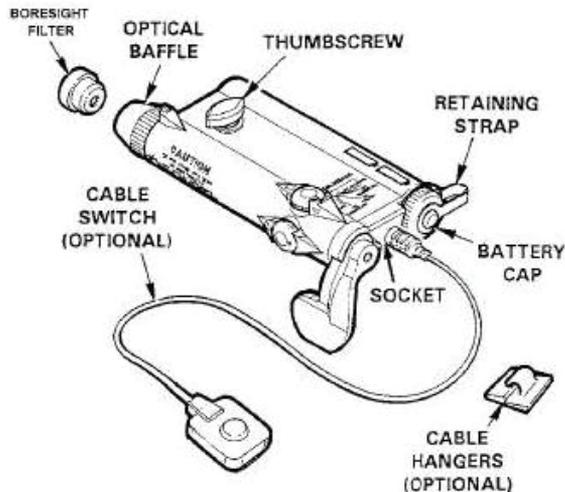

Figure 071-100-0039-1. Aiming light and components
2. Inspect the aiming light and components (figure 071-100-0039-1).